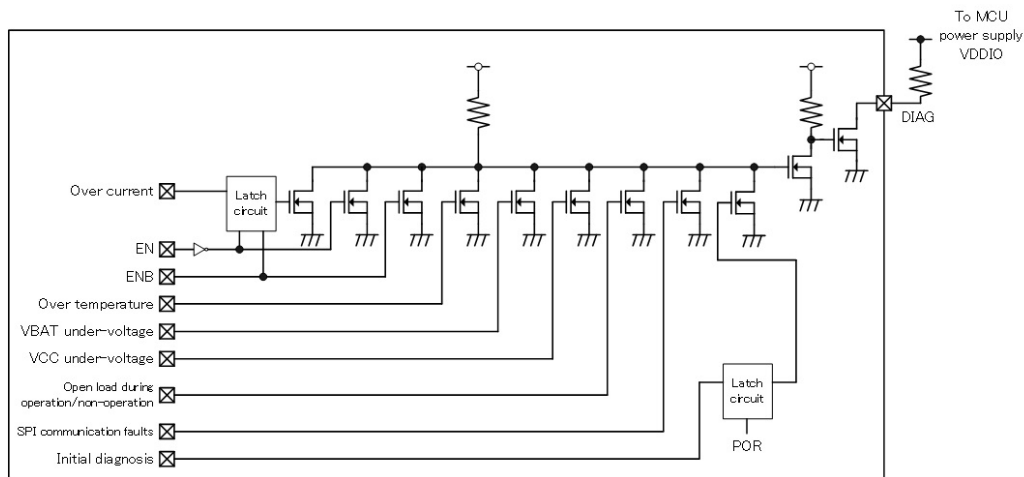

Figure 7.10. Example DIAG output circuit configuration
7.6. DIAG output (Table 7.10 and Figure 7.10)